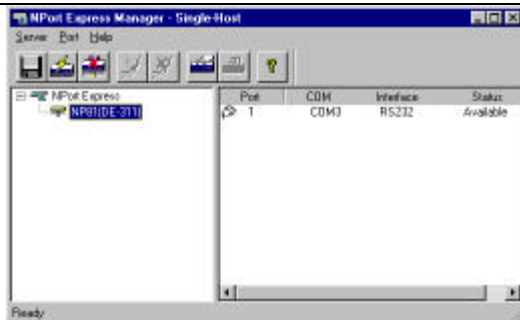

Figure 3-1. NPort Express Manager main window, Single-Host mode
3. Click on the **Unmap Port** icon to remove the selected port. In the example shown here, we deleted Port 1, as indicated by the “ellipses” (...) under **COM**, and a missing “plug” icon under **Port** (compare to Fig. 3-1).